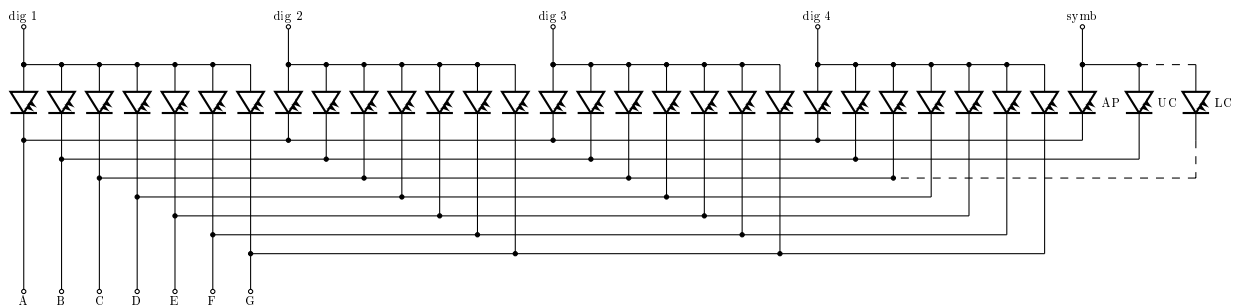

Figure 6: A 4-digit common anode display with a separate symbol digit pin for colon and apostrophe
**Additional digit pin for colon and apostrophe.** On these kind of displays a separate digit pin “symb” is used for symbols: apostrophe (AP) and colon (UC and LC if split in two). The symbols share segment pins with the usual segments A-G. See Fig. 6. These displays are configured by `setSymbPins()`.